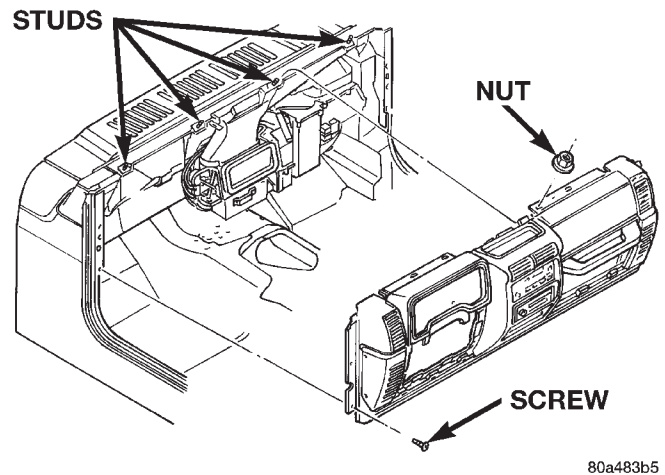

Fig. 22 Instrument Panel Assembly Remove/Install
(7) Remove the top cover from the instrument panel. Refer to **Instrument Panel Top Cover** in the Removal and Installation section of this group for the procedures.
(8) Remove the three screws that secure each end of the instrument panel to the door hinge pillars (Fig. 22).
(9) Remove the four nuts that secure the top of the instrument panel to the studs on the top of the dash panel.
(10) With the aid of an assistant, lift the instrument panel assembly off of the dash panel studs and remove it from the vehicle.